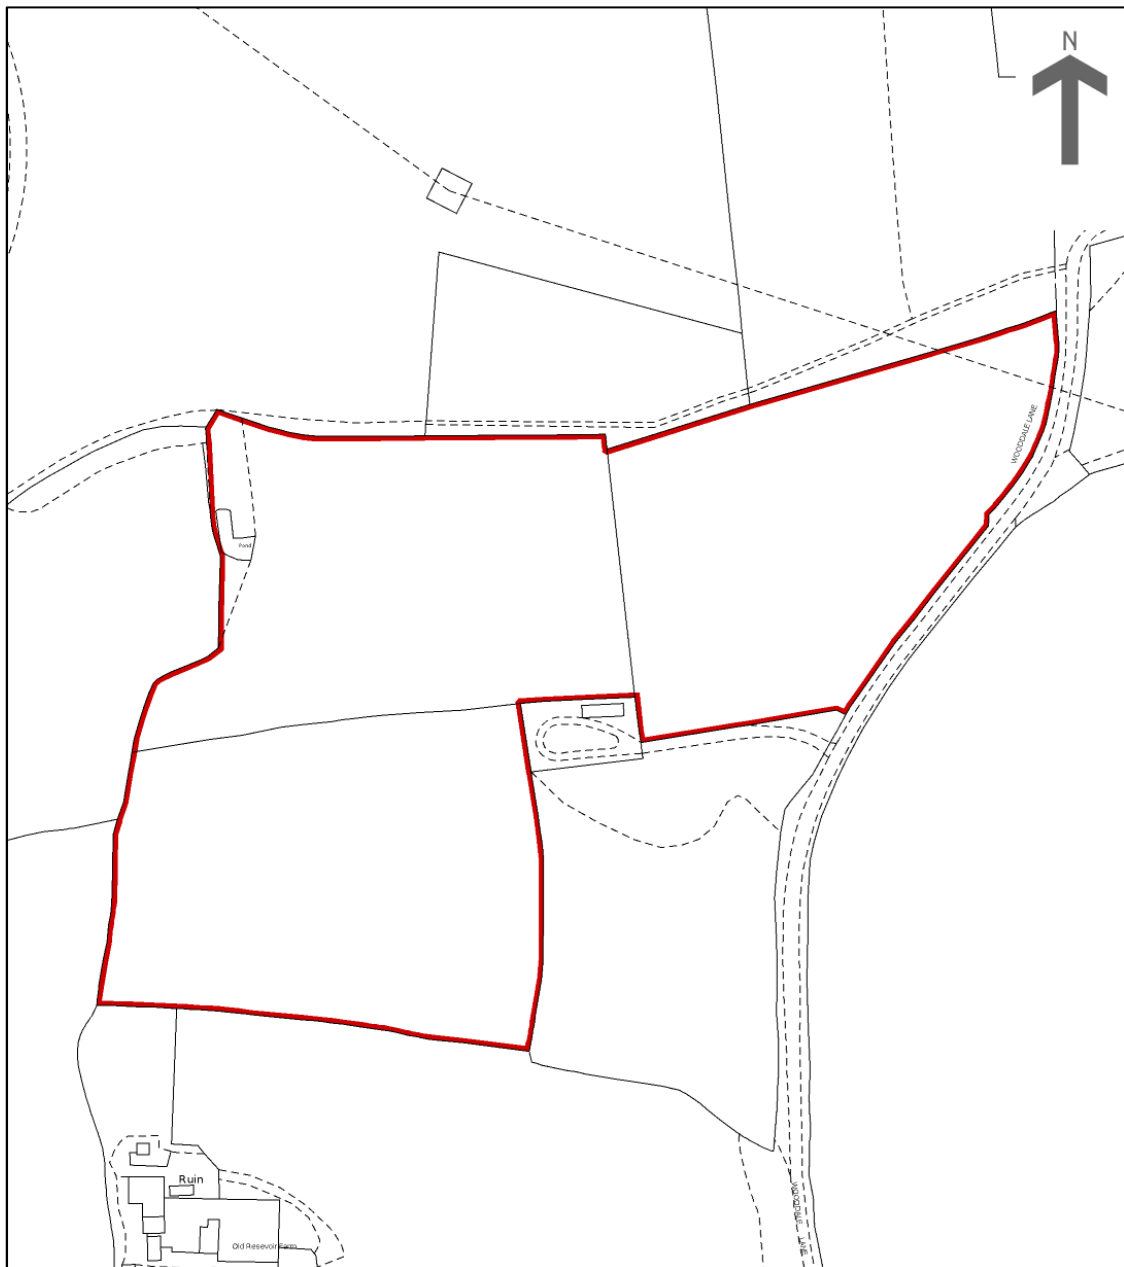

Figure 2.1: Extract of Proposed Site Boundary (Source: HM Land Registry)
- 2.1 The development is located to the west of Wooddale Lane, and to the east and north of the A272. It is located to the northeast of the parish of Billingshurst. The site comprises greenfield land. The site's operational access will be from the west via Dadswell Drive, however, temporary construction access will be from Wooddale Road to the east. An extract of the red line boundary is shown in **Figure 2.1**.